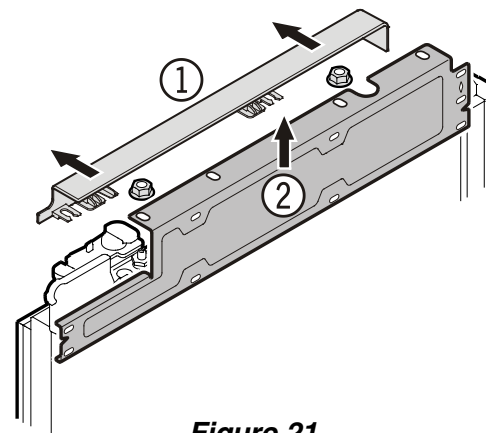

Figure 21
## Before mounting the door panels - Figure 21
- Figure 21